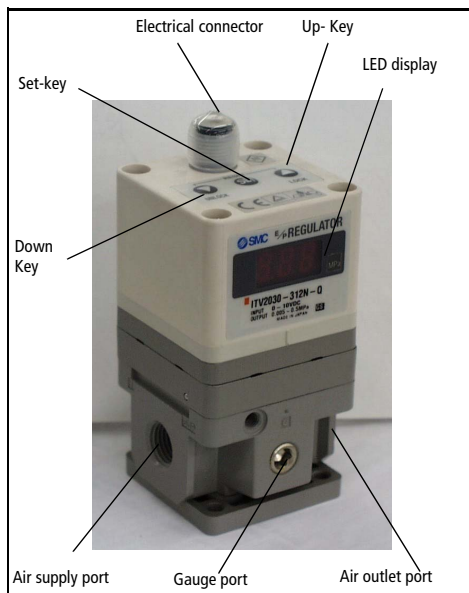

Fig 1
- To set minimum pressure (display shows F-1) use up/down keys (Fig 1) and press 'Set' key (Fig 1) to 'Lock' setting.
- To set maximum pressure (display shows F-2) use up/down keys (Fig 1) and press 'Set' key (Fig 1) to 'Lock' setting.
- To set switch output 1 (display shows P-1) use up/down keys (Fig 1) and press 'Set' key (Fig 1) to 'Lock' setting.
- To set switch output 2 (display shows P-2) use up/down keys (Fig 1), and press 'Set' key (Fig 1) to 'Lock' setting.
The keys are locked after connecting power, and can not be operated. 'Loc' is indicated on Display (Fig 1) when any keys are pushed.
- 1) Push 'Down' key (Fig 1) for longer than 2 seconds.
- 3) Push 'Set' key (Fig 1) to unlock.
- 1) Push 'Up' key (Fig 1) for longer than 2 seconds.
- 3) Push 'Set' key (Fig 1) to lock.
Note: To cancel push 'Down' key (Fig 1).
If an abnormality is detected by the ITV2000 the LED display (Fig 1) will show 'Er' followed by a code number. Isolate the power supply and ascertain and solve the problem. Re-instate power supply after correcting fault.
Push 'Up' and 'Down' keys (Fig 1) together for longer than 3 seconds. Display shows 'RES'. Release keys to reset minimum pressure, maximum pressure and switch outputs P1 & P2 to start condition.